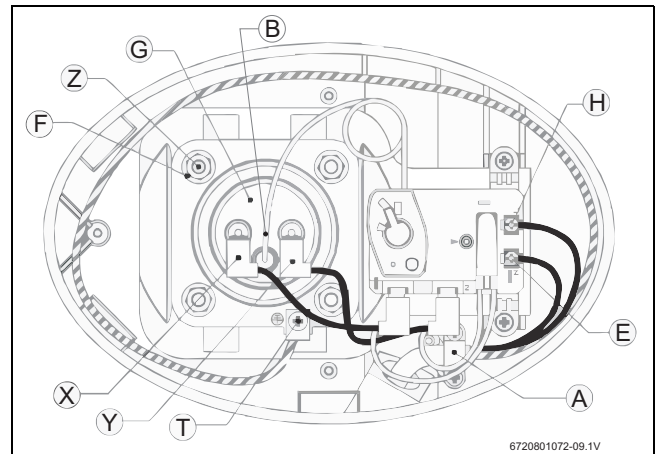

Fig. 10
- ▶ Remove the front cover plate, disconnect terminals X, Y and T (Fig. 10).
- ▶ Unscrew the 4 heating element retaining nuts F (Fig. 10).
- ▶ Remove thermostat temperature sensor from well [B] located on the element assembly (Fig. 10).